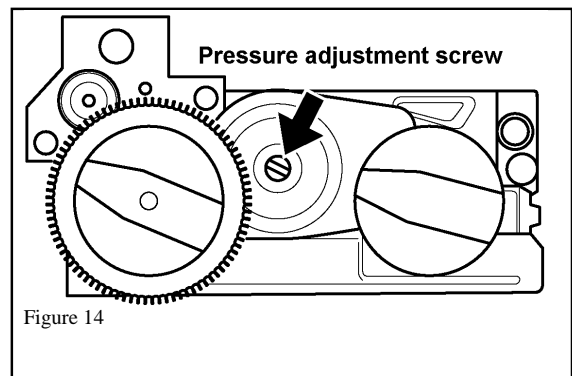

Figure 14
17. Light the appliance and turn up to full fire. Check for leaks downstream of the valve. Adjust the manifold pressure setting screw to 3.9" w.c. (See figure 14)